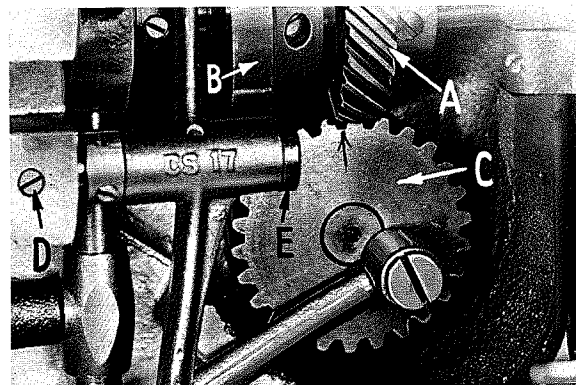
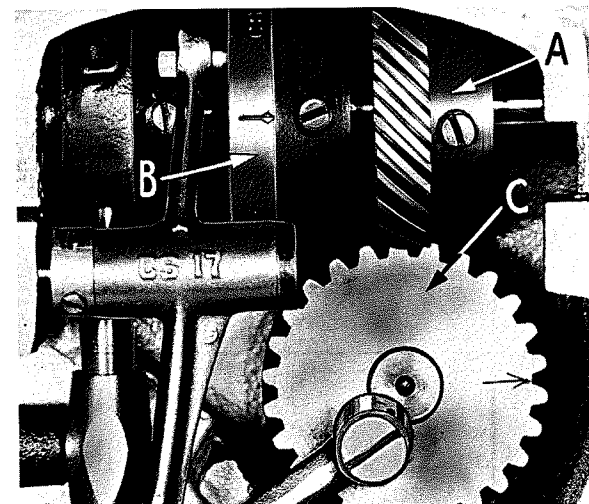
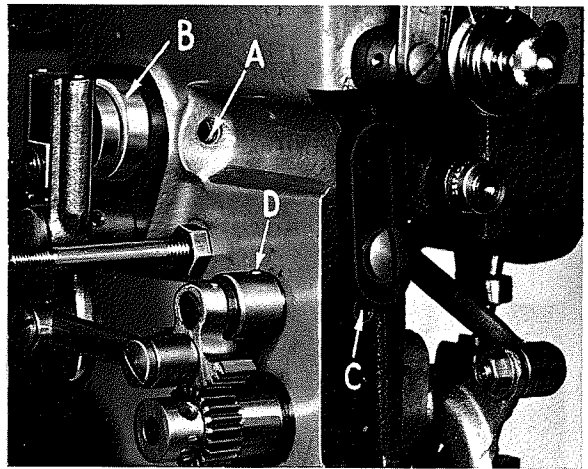

Fig. 4
Fig. 5
Fig. 6
The main shaft drive gear (A, Fig. 4) and the looper cam (B) are spotted on the main shaft. Therefore, the arrow on the hub of the looper cam and on the right side of the drive gear should be in line. The timing is correct if the arrow on gear (C) points to the line on the left side of drive gear (A), or as the handwheel is turned in the operating direction this same arrow is in line with the arrow on the right side of gear (A). To check for proper timing, open front cover and turn handwheel in operating direction until the spot screw (the second screw around as the handwheel is turned in operating direction) in the looper cam (B, Fig. 5) is toward the front. The arrow on the cam will then be in a horizontal position pointing to the right. At this time the arrow on gear (C) should coincide with the arrow on the cam at a position pointing slightly above horizontal as in Fig. 5. If adjustment is necessary, loosen
the two screws in drive gear (A) and slide gear to the right until the gears no longer mesh. Turn handwheel in operating direction until the spot in looper cam is to the front. Do not turn the handwheel after the spot is in this position. Now, turn gear (C) until the arrow points to the right and is slightly above a horizontal position. Slide drive gear (A) to the left so the gear teeth mesh and the spot screw lines up with the spot on the main shaft. Retighten the screws. Now, check alignment of the arrows on gears (A and C, Fig. 4). If the arrows do not line up, slide gear (A) to the right once again and turn gear (C) to the left or right as required. Reposition gear (A) so spot screw lines up with the spot on the main shaft and again check the arrow alignment. Repeat this procedure until arrows line up and the spot screw is in line with spot on main shaft, then tighten spot screw and set the screw in drive gear (A).
It may also be necessary to remove any play or bind that may have developed between gears (A and C, Fig. 5) as a result of normal wear or replacement. To remove any bind or excess play, loosen set screw (A, Fig. 6) and turn bushing (B) in the required direction by inserting a screwdriver in the oil hole on top of the shaft. Tighten screw. Turn the handwheel in operating direction to be sure the machine does not bind.
To adjust the looper spreader mechanism to the right or left, loosen the set screw (D, Fig. 4) and slide the stud (E) in the required direction. Retighten the screw (D). To adjust the looper spreader